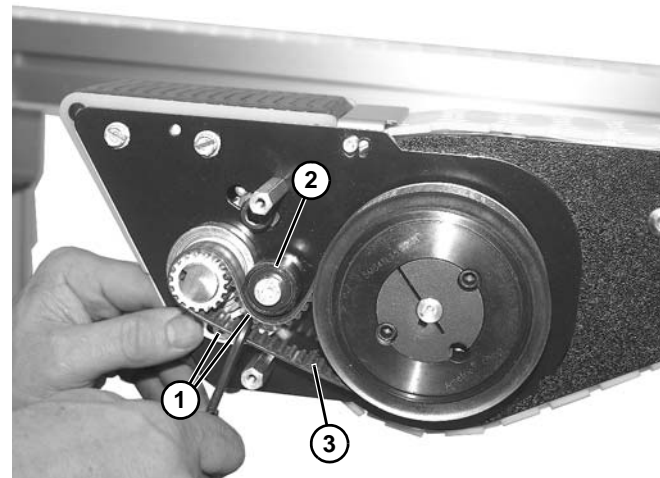

Figure 125
2. Loosen two socket head screws (Figure 125, item 1) holding tensioning pulley (Figure 125, item 2) onto timing belt (Figure 125, item 3).
3. Remove timing belt (Figure 125, item 3) from assembly.